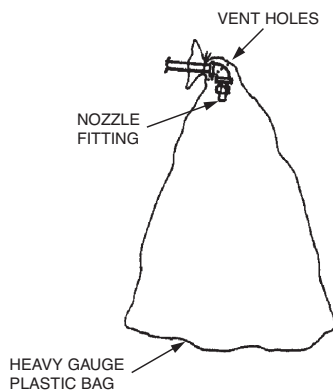
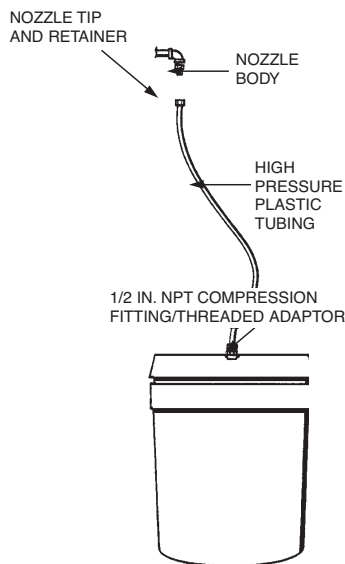

FIGURE 2
FIGURE 3
7. To perform the flushing procedure, either secure heavy-duty plastic bags to each nozzle (See Figure 2) or remove each nozzle tip and strainer and attach plastic tubing. See Figure 3.